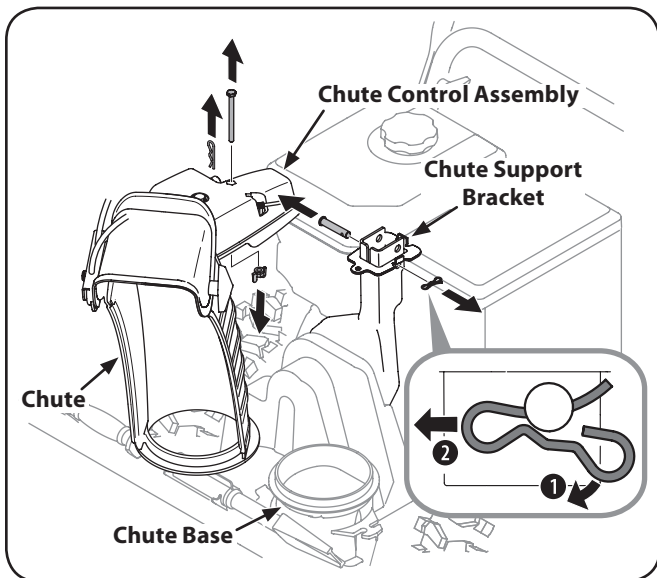

Figure 3-5
1. Remove wing nut and hex screw from chute control assembly and clevis pin and cotter pin from chute support bracket. See Fig. 3-5.
8. Finish securing chute rotation assembly to chute support bracket with wing nut, clevis pin and cotter pin removed earlier. See Fig. 3-5.